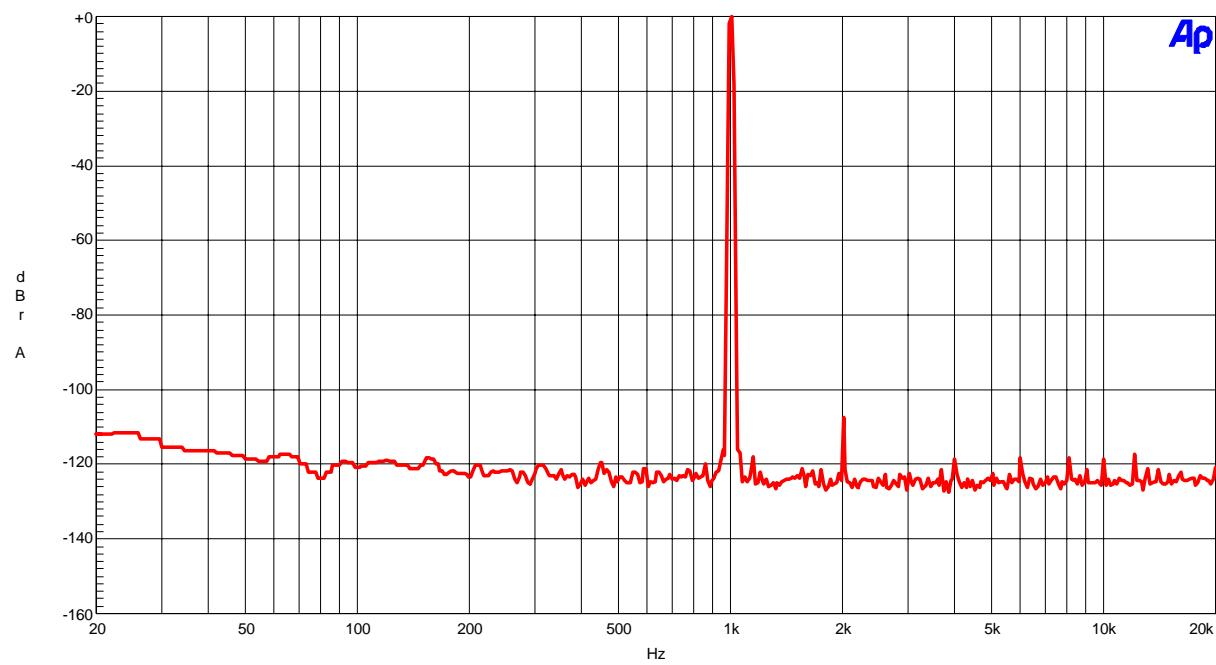

Figure1-1. FFT (fin=1kHz Input Level=0dBFS)
- Figure 1-1. FFT (1kHz, 0dBFS input) at 2Vrms output